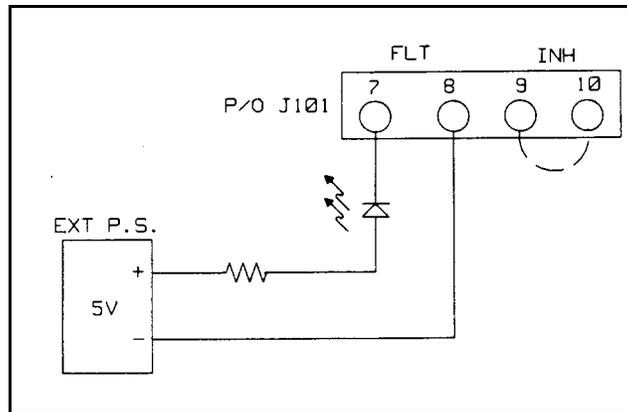

Figure 5-4. FLT/INH Circuit
The troubleshooting procedures provided in the following paragraphs should be performed in the sequence given in order to isolate the defective circuit and/or component. Refer to Figures 5-4 through 5-7 and proceed as described below.
- Connect a LED (Agilent/PN 1990-0486 or equivalent), a 3K resistor (Agilent/PN 0686-3025 or equivalent), and an external 5Vdc supply (Agilent/PN 6214C or equivalent) to the $\overline{\text{FLT}}$ output pins (J101-7 and 8) as shown in Figure 5-4.